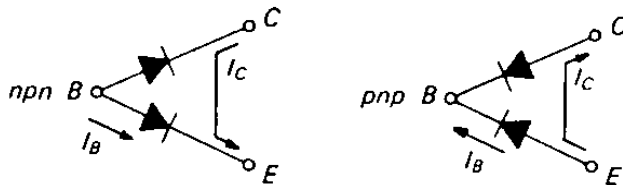

Fig.2. Direction of currents flow **npn** and **pnp** transistors.
2. The B-E and the B-C circuits behave like diodes (Fig.2): one of them is conducting and the other is polarized in the opposite direction.